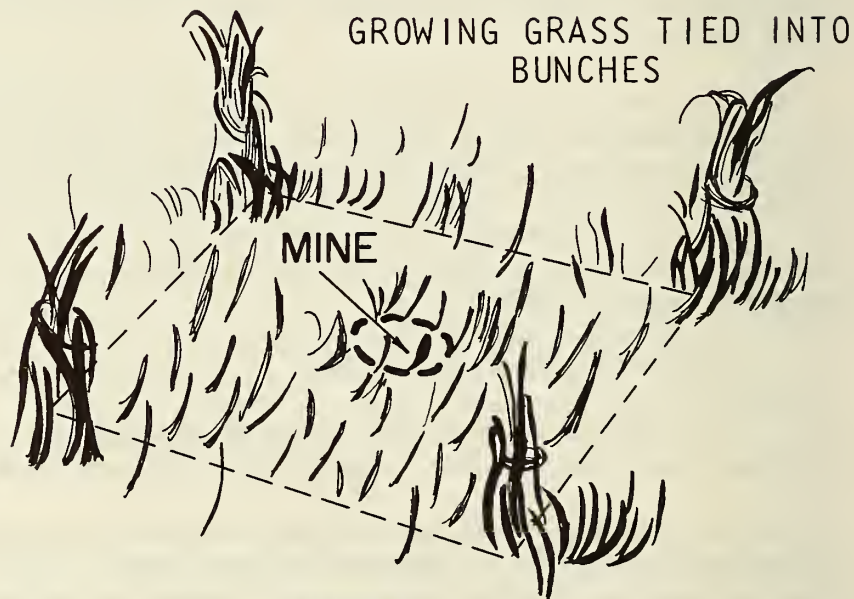

Figure 6
7. VIET CONG METHODS OF MARKING MINES (figures 6, 7).